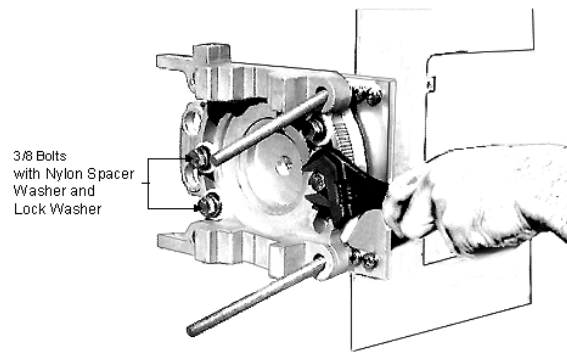

Figure 4-13: Fastening the Remaining Bolts
12. Fasten the remaining elevation bolts, spacers, washers and lock-washers as follows (see Figure 4-13):
8. Fasten the remaining elevation bolts, spacers, washers and lock-washers as follows (see Figure 4-13):